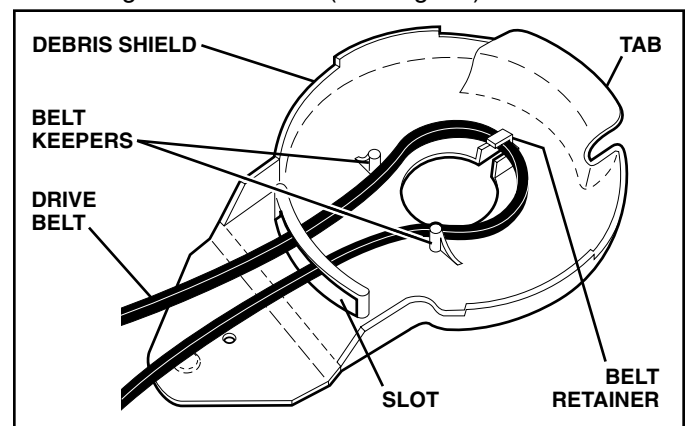

FIG. 18
1. Place new drive belt in the belt retainer of the debris shield. Be sure to route belt between belt keepers and through slot as shown (See Fig. 18).